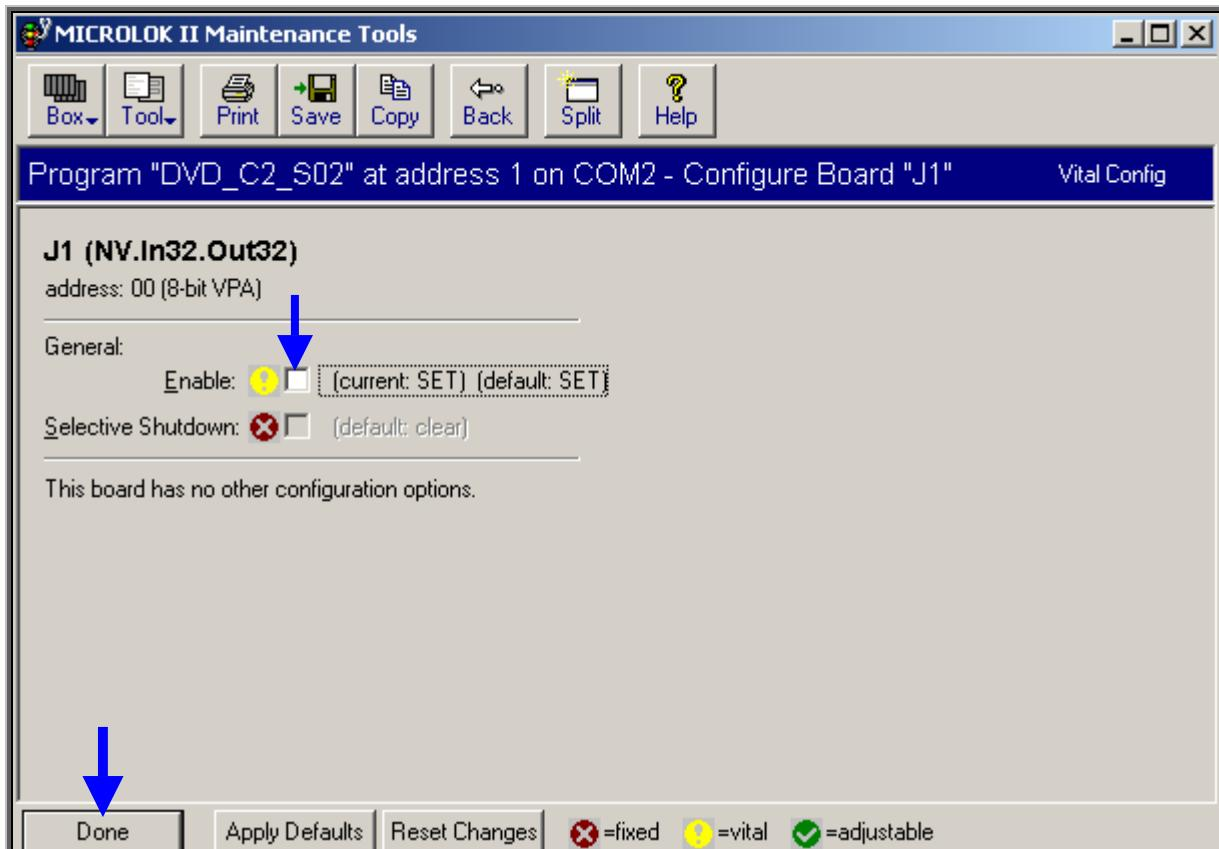

Figure-7.5.3.3
- ◆ User wants to disable the particular board, click the “Enable” selection square box (Refer Figure-7.5.3.3).